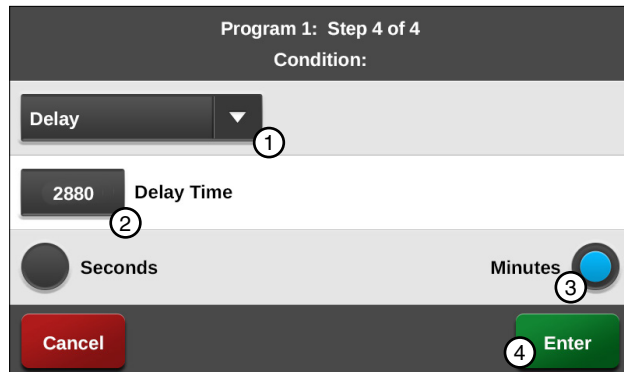

Figure 134-1 1. Delay Condition 2. Delay Time 3. Minutes 4. Enter
11. Program the delay time condition for this step. Refer to Figure 134-1.
- Select the **Add Command** drop-down menu and choose **Run Program**. Refer to Figure 134-1.